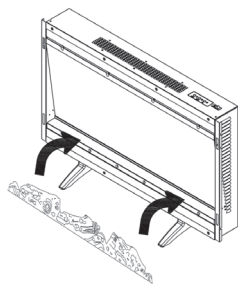

Figure 10
- Unpack the log from the bag and place them along the light unit in the desired position (see figure 10).